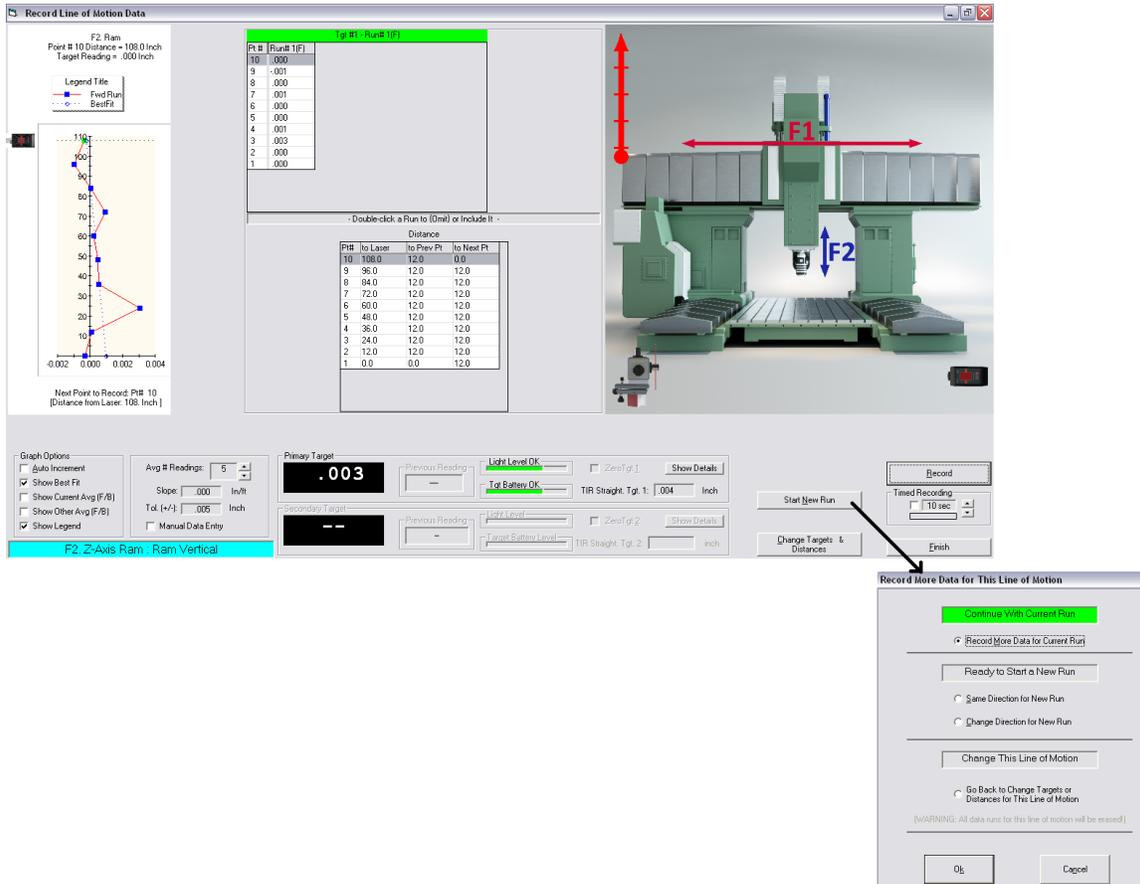

Figure 20 – Record Line of Motion Data Screen
The program keeps separate averages at each point for all (F)orward runs and (B)ackward runs, as well as an overall total average for *all* runs. For example, it may be desirable to know if a machine is giving the same readings when it moves *forward* as when it moves *backward* to compare the two averages for this line of motion. To change the direction for a run, click **Start New Run (Alt-N)** and select **Change Direction for New Run (Alt-C)** (see Figure 20). Backward runs are designated on the graph by a *yellow* broken line, while a black broken line designates Forward runs.